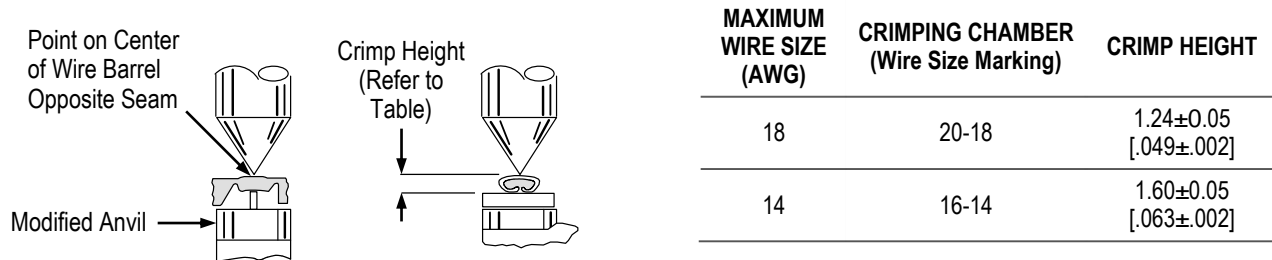

Figure 4
1. Refer to Figure 4, and select a maximum size wire for each crimping chamber.
3. Using a crimp height comparator, measure the crimp height as shown in Figure 4. If the crimp height conforms, the tool is considered dimensionally correct. If not, the tool must be adjusted. Refer to Section 7.